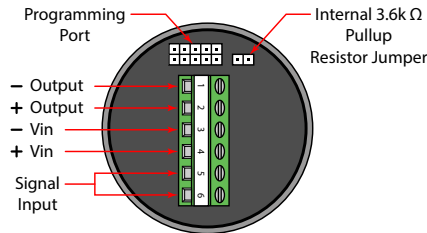

Figure 2: Input/Output terminal connections
The board connections include power input, turbine meter input and the pulse output to a totalizing device. See *Figure 2* for the I/O terminal connections.
The K-factor scaler requires 8.5...30V DC to operate and is diode protected. *Figure 2* shows the supply polarity.
Either the internal or an external pullup resistor is required for the K-factor scaler to provide an output pulse. An onboard jumper controls the pullup resistor selection. With the jumper installed, the internal pullup resistor is connected. Without the jumper, an external pullup is required. See *Figure 2* for the I/O terminal connections.
1. Make sure the power is off. Then connect the adapter cable to the K-factor scaler board using the programming port (see *Figure 2 on page 5*).